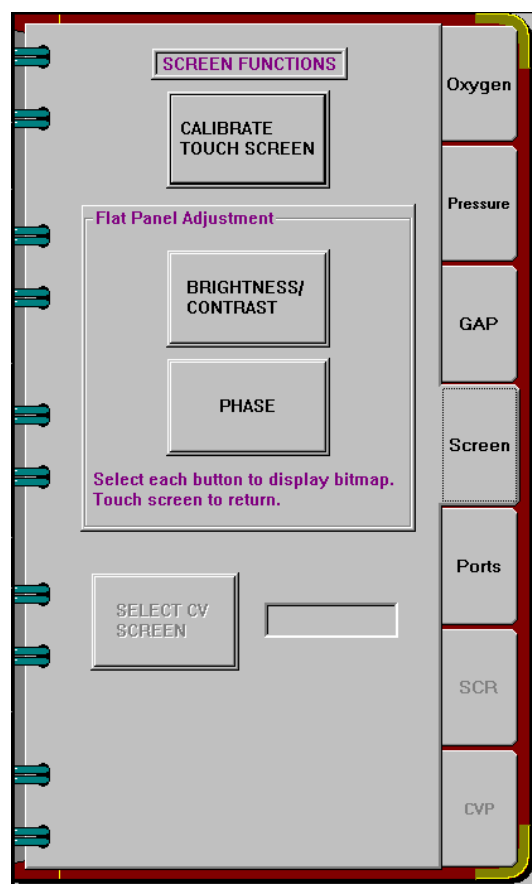

FIGURE 8. Screen Functions Page
35. Touch the Screen tab to display the Screen Functions page as shown in Figure 8.